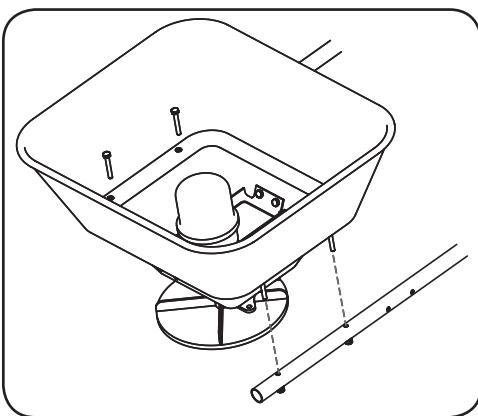

Figure 1-7
5. Attach the hopper assembly to the round ends of the single frame tubes with four M6 x 40 bolts and locknuts. See Figure 1-7.